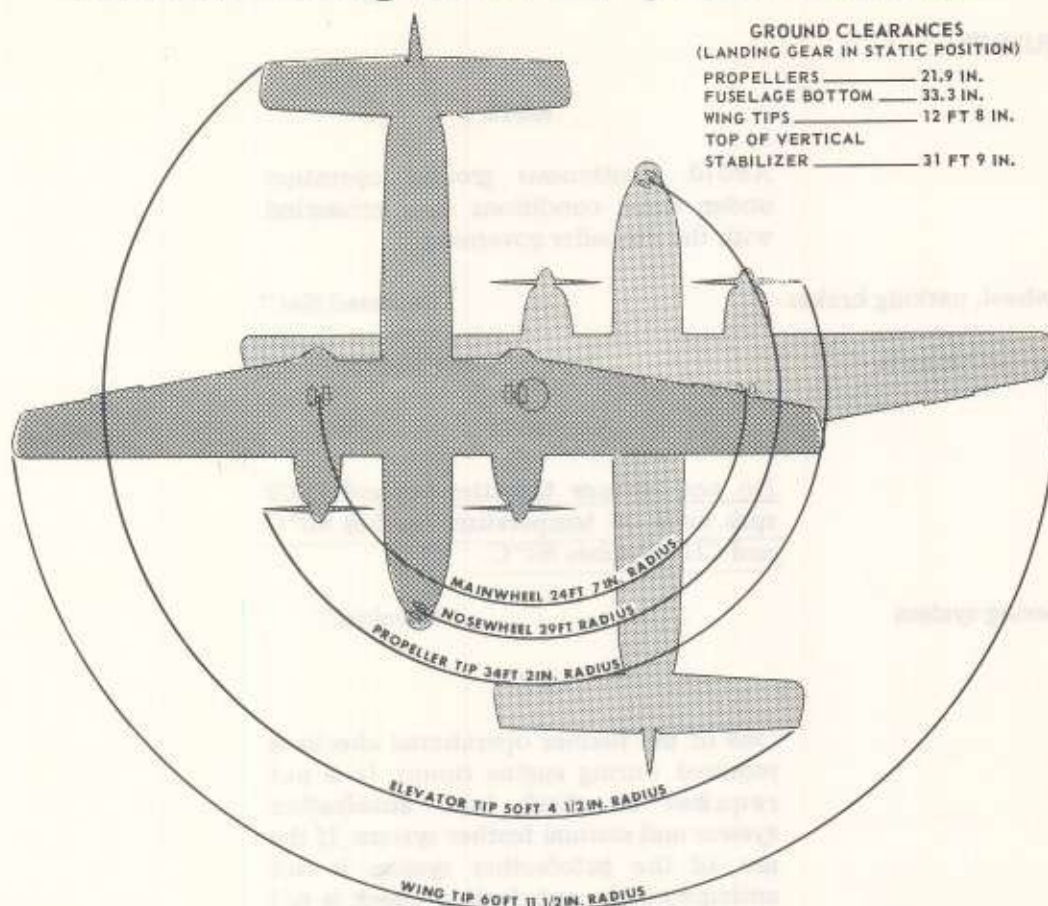

Figure 2-2
- Avoid turns with brakes locked on one side to prevent damage to the tires or the main landing gear. When possible, avoid braking to a stop in turns, since damage to the nose landing gear and/or supporting structure may result. See figure 2-2 for minimum space and clearance required for turning.